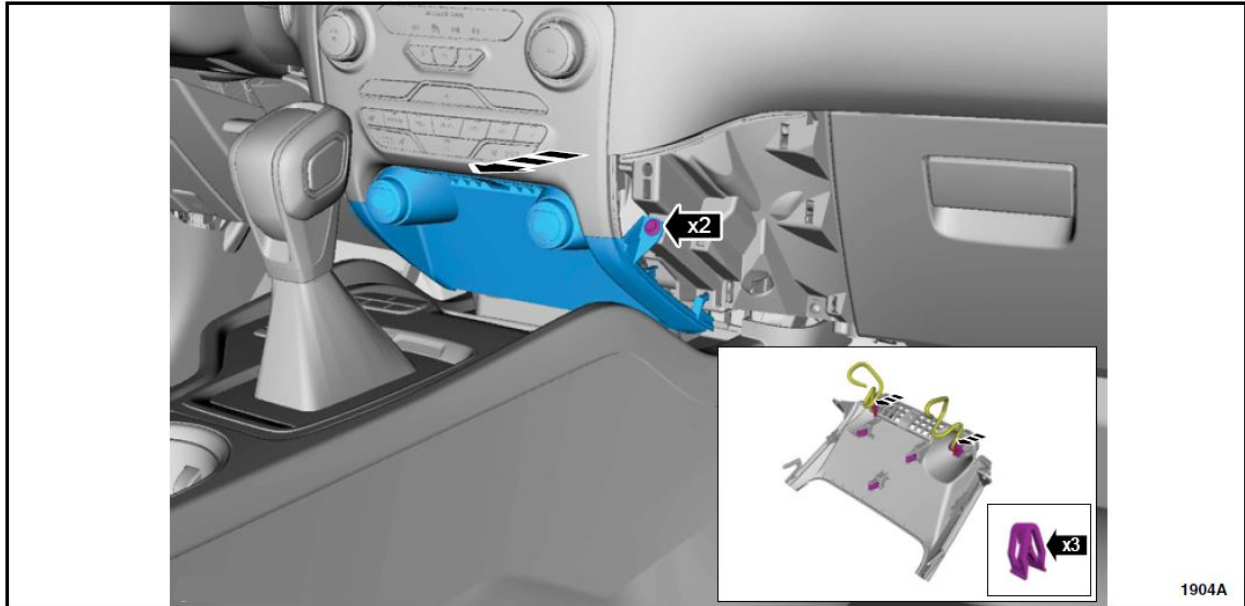

FIGURE 4
4. Remove the retainers, disconnect the electrical connectors and remove the lower center stack trim panel. See Figure 4.